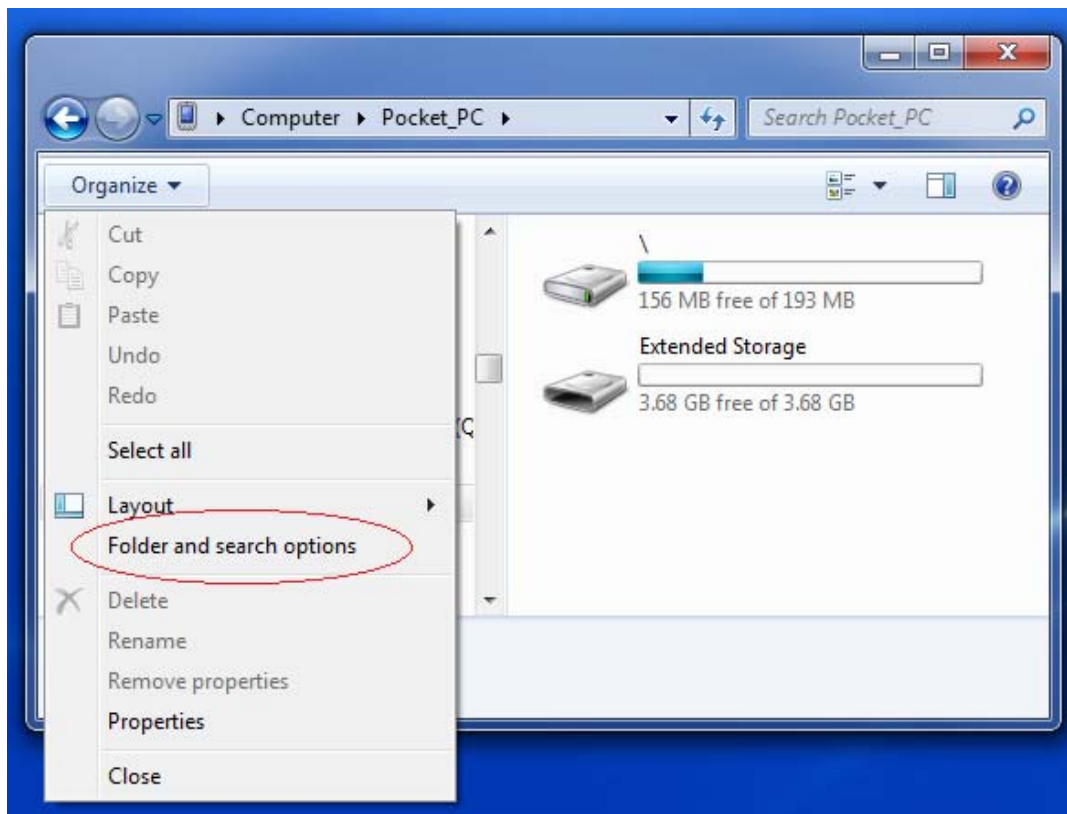

Figure 9 - Organize Drop-down Menu
3. From the resulting drop-down menu, click “Folder and search options” (see Figure 9) to display the Folder Options dialog.